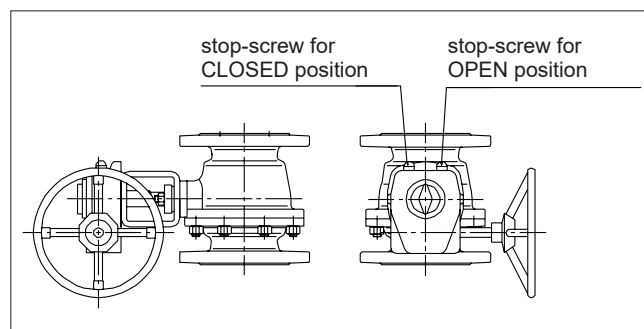

Fig. 14 Open and closed positions of the M actuator
- Adjust the ball open and closed positions with the hexagon screws located at the side of the housing (see Figure 14). The stop-screw for the open position is nearest to the handwheel on the side of the housing and the screw for the closed position is at the opposite end. The turning directions for the handwheel are marked on the wheel.